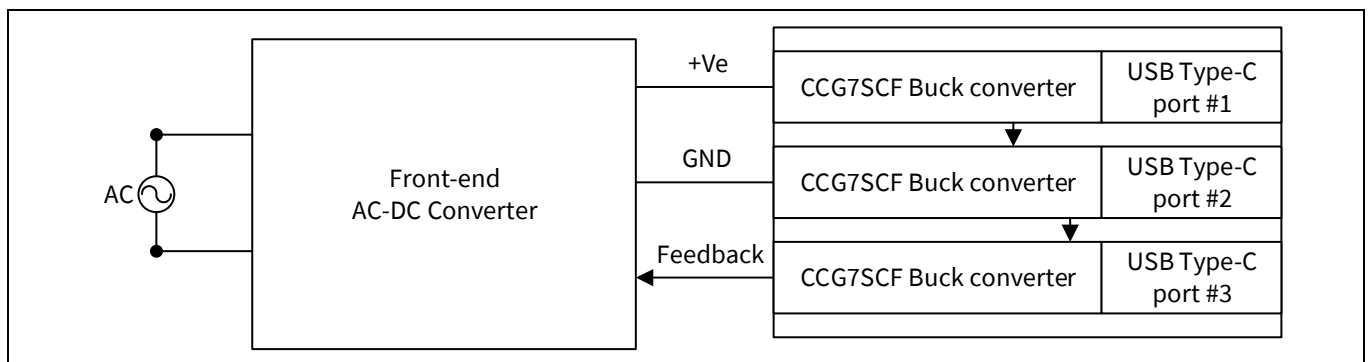

Figure 14 CCG7SCF-based 3 port charger and adapter solution
The USB-PD multi (3)-port charger and adapter solution for AC-DC power application can be achieved with three individual CCG7SCF controllers. **Figure 14** illustrates USB-PD multi (3)-port charger and adapter solution for AC-DC power application block diagram using EZ-PD™ CCG7SCF. Here three CCG7SCF controllers will support to provide required voltage current for three ports.